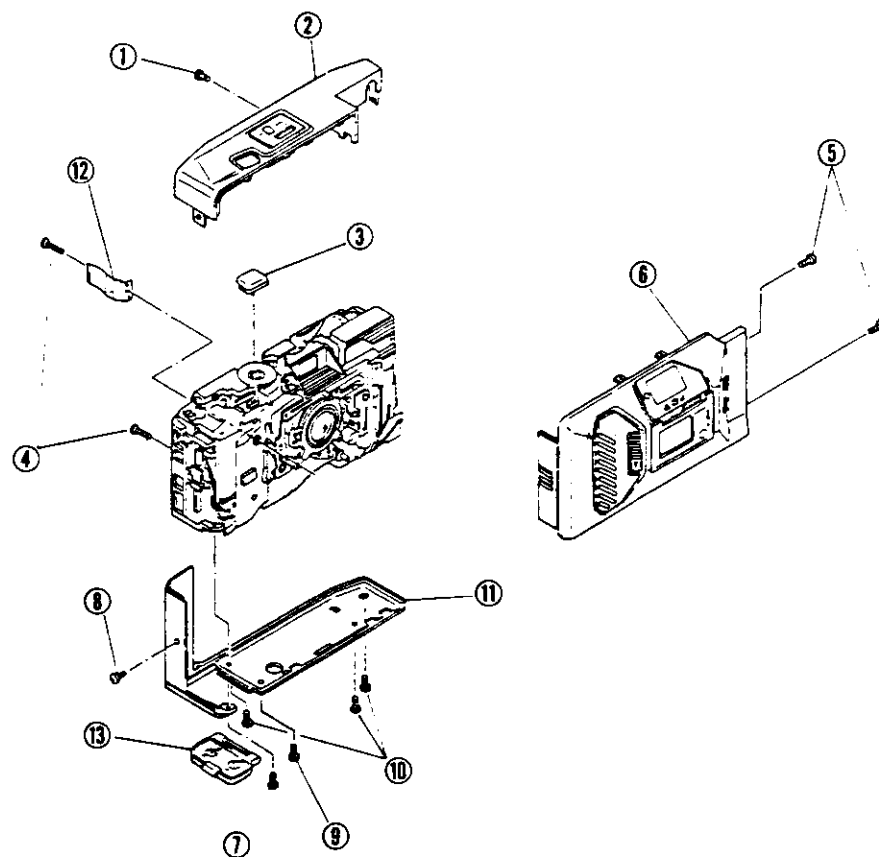

Fig. 1
1. Bottom cover (Fig. 1)
2. Front cover (Fig. 1)
3. Top cover (Fig. 1)